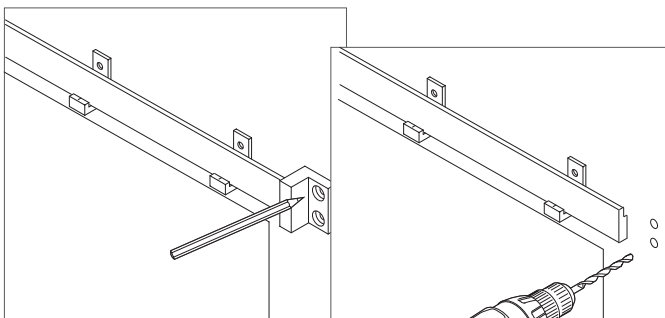

Figure 8
10. Slide the remaining end bracket onto the end of the track. Mark the holes for the end bracket using a pencil (Figure 8). Set the bracket aside.